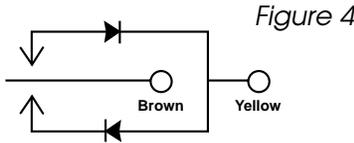

Figure 4
The Positive Control Switch (PCS) is a unique current directing switch for controlling a single Transformer Relay (TR). As a momentary contact, a normally open switch with integral diodes, the PCS provides positive control to a TR by directing the current flow in the appropriate direction (Figure 4). When toggled to "ON", the appropriate current flow direction is allowed and the TR responds accordingly. If the TR is "OFF", it will change states. If the TR is already "ON", it will remain in that state. Because the Transformer Relay responds to a momentary current flow, any number of PCS can be wired in parallel and provide independent control.